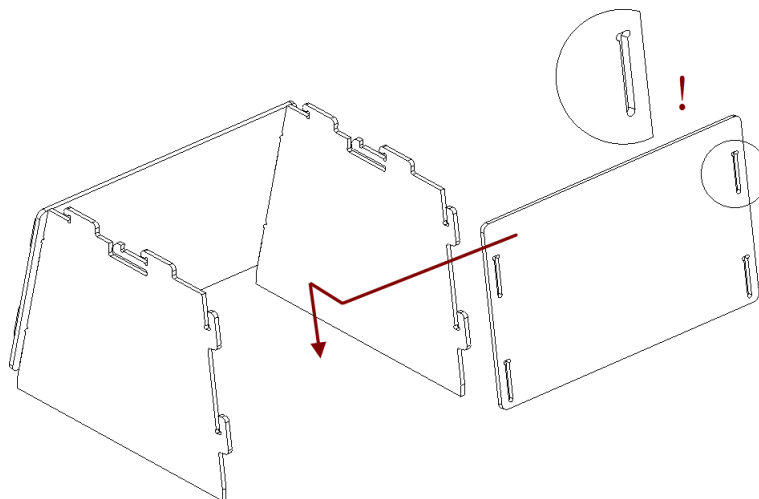

Figure 242: Assembling the back wall.
2. Install the back wall in the same way (see Figure 242).